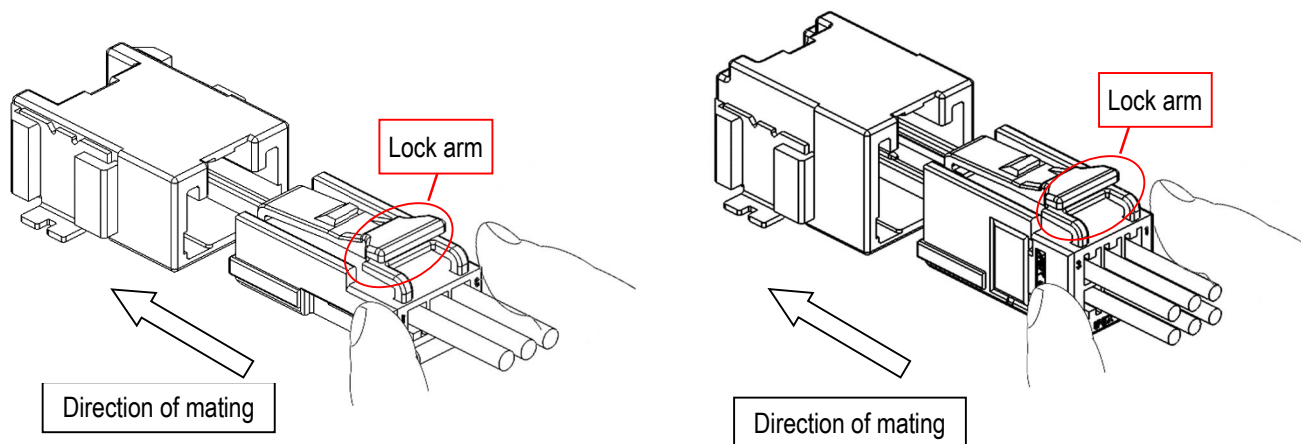

Fig48. Direction of mating
- ① Push the female connector that has been installed the secondary lock part and the retainer in the direction of mating until makes an audible click(see Fig.48).